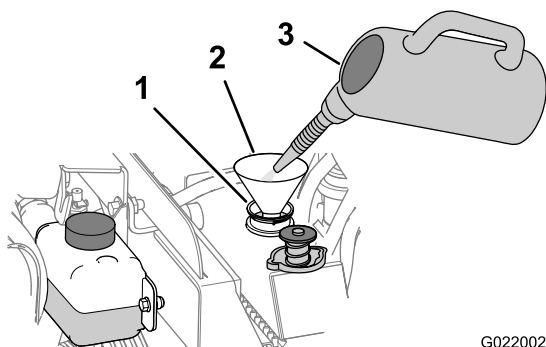

Figure 141
- B. Add a cooling system cleaning solution to the to the radiator through the filler neck (Figure 141).